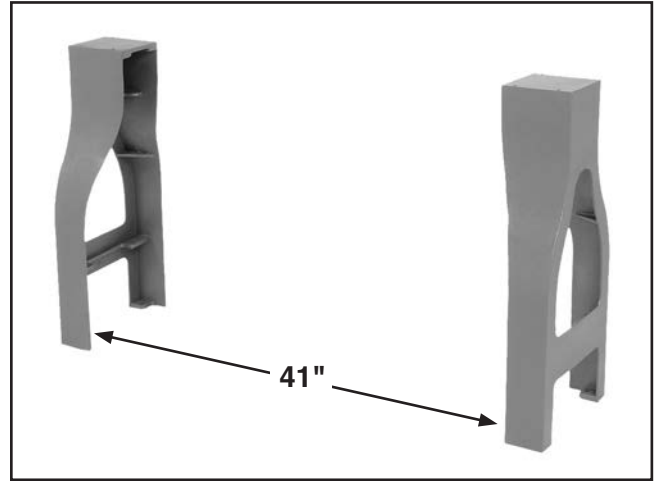

Figure 3. Stand legs approximately 41" apart to prepare for mounting lathe bed.
5. Position (2) stand legs up approximately 41" apart and get them reasonably aligned, as shown in **Figure 3**.